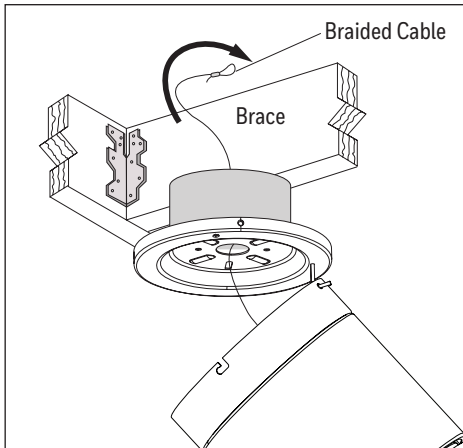

Figure 3.1
1. **WARNING:** Secondary support is required for this product. Failure to follow the steps below could result in property damage and/or personal injury. Feed the loop of the braided cable, preassembled to the motor assembly, up through the outlet box mounted in the ceiling (Figure 3.1).